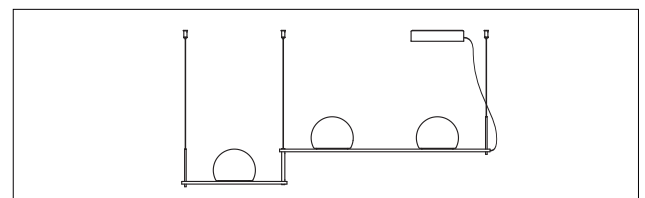
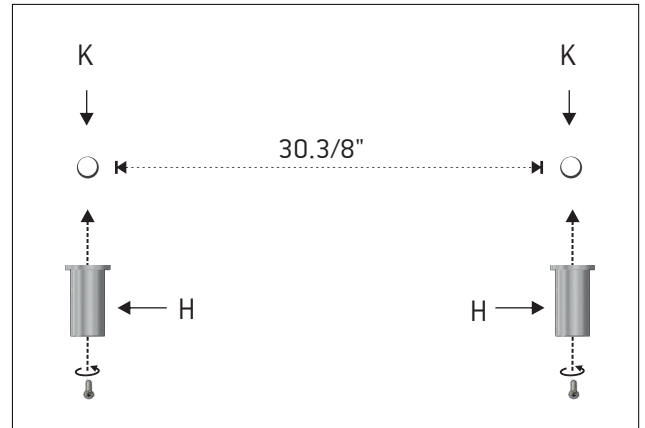
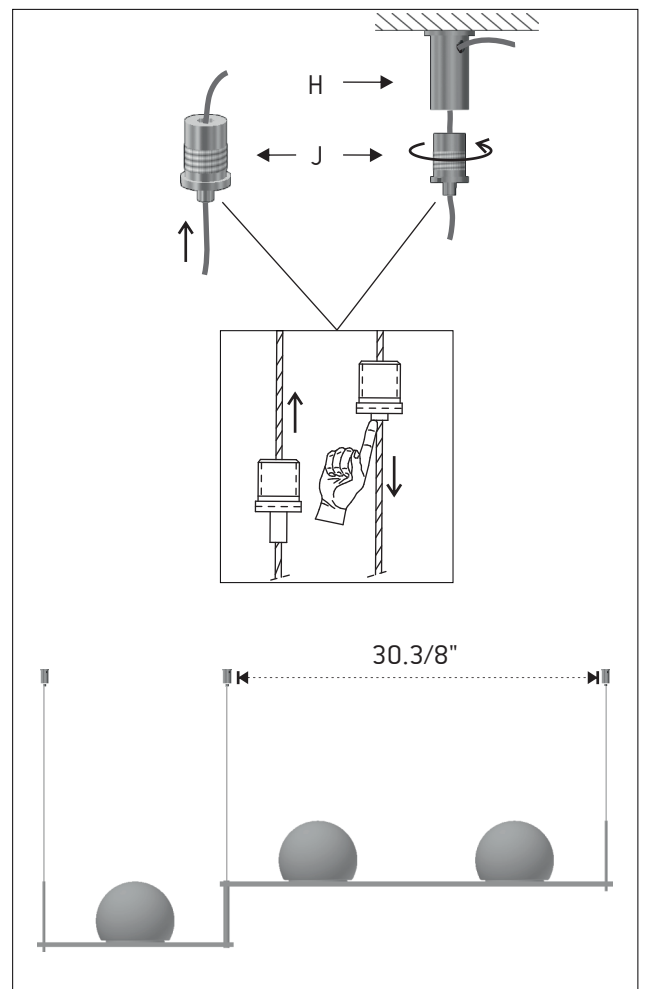

Figure 1A
Figure 5
Figure 6
- To be mounted facing up (figure 1A) go directly to step 5 (figure 5)
5 - Mark one spot (K) on the ceiling at a distance of 30.3/8" (772mm) between them and fix the two tensors (H) in the mark. Figure 5. (See figure 6 to see the result)
6 - Insert the steel cables into the gripper supports (J) and then insert them through the side hole of the tensors (H). Again screw the gripper support to the tensor and adjust the cable to the desired length. Figure 6